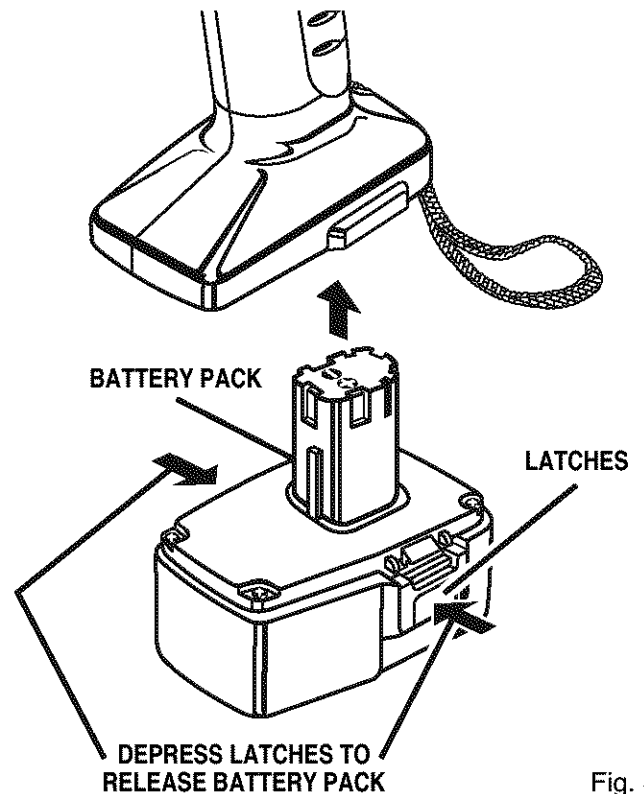

Fig. 4
See Figure 4.
- Place battery pack in the drill. Align raised rib inside drill with groove on battery pack. See Figure 4.
- Locate latches on end of battery pack and depress to release battery pack from the drill. See Figure 4.